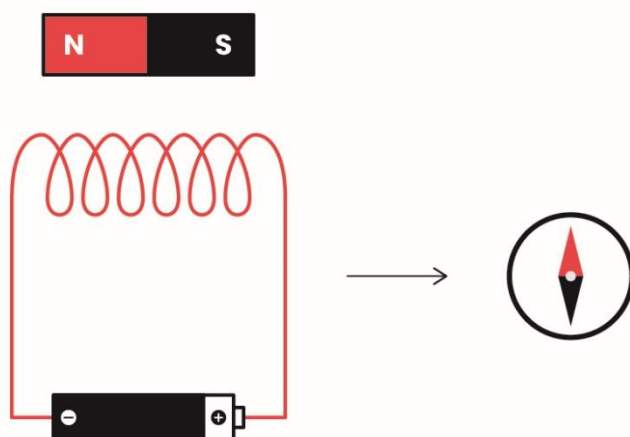

Fig. 1. Alignment of the electromagnet and bar magnet relative to the compass during the demonstration.
- Position the electromagnet in relation to the compass needle so that they are perpendicular to each other (Fig. 1) and spaced by e.g. 20 cm.